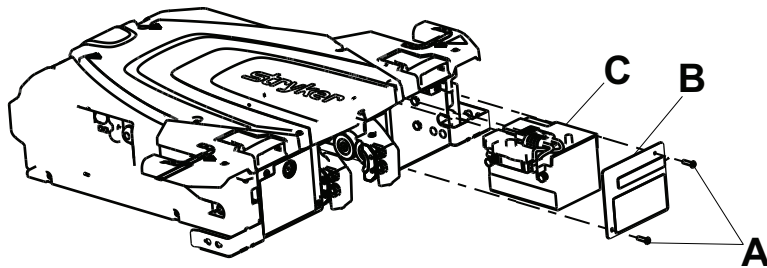

Figure 45 – Battery housing components
2. Using a T25 Torx driver, remove the two button head cap screws (A) that secure the rear trolley plate cover (B) to the trolley frame (Figure 45). Remove the cover. Save the screws.
3. Pull to remove the battery housing assembly (C) (Figure 45).